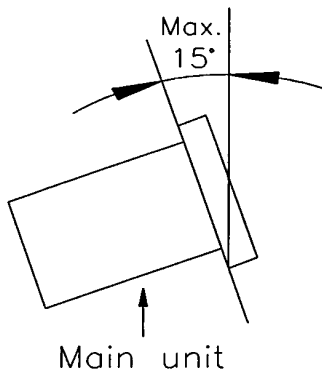

Fig. 1
- The player will work normally when the main unit is mounted with the front panel within 15 degrees of the vertical plane. If the unit is tilted excessively, discs may not be loaded or unloaded properly. (**Figure 1**)